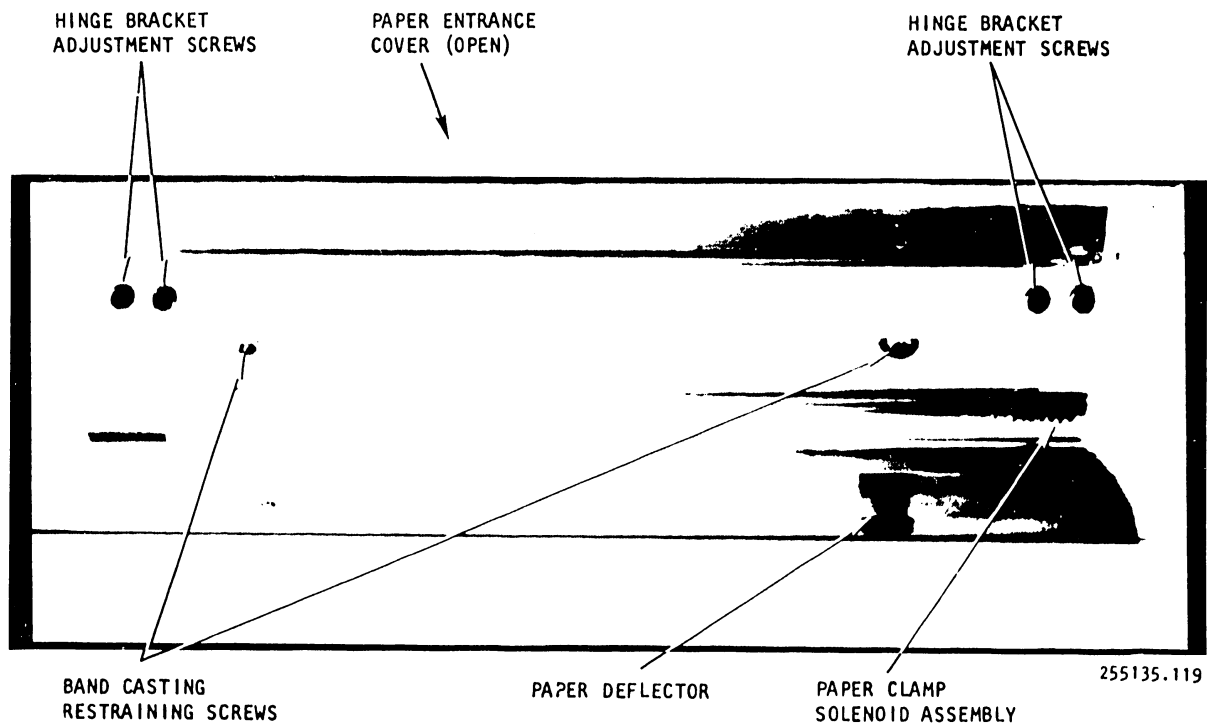

Figure 3-25. Paper Entrance Cover Assembly
3.4.14 Paper Entrance Cover Removal/Replacement (Figure 3-25)